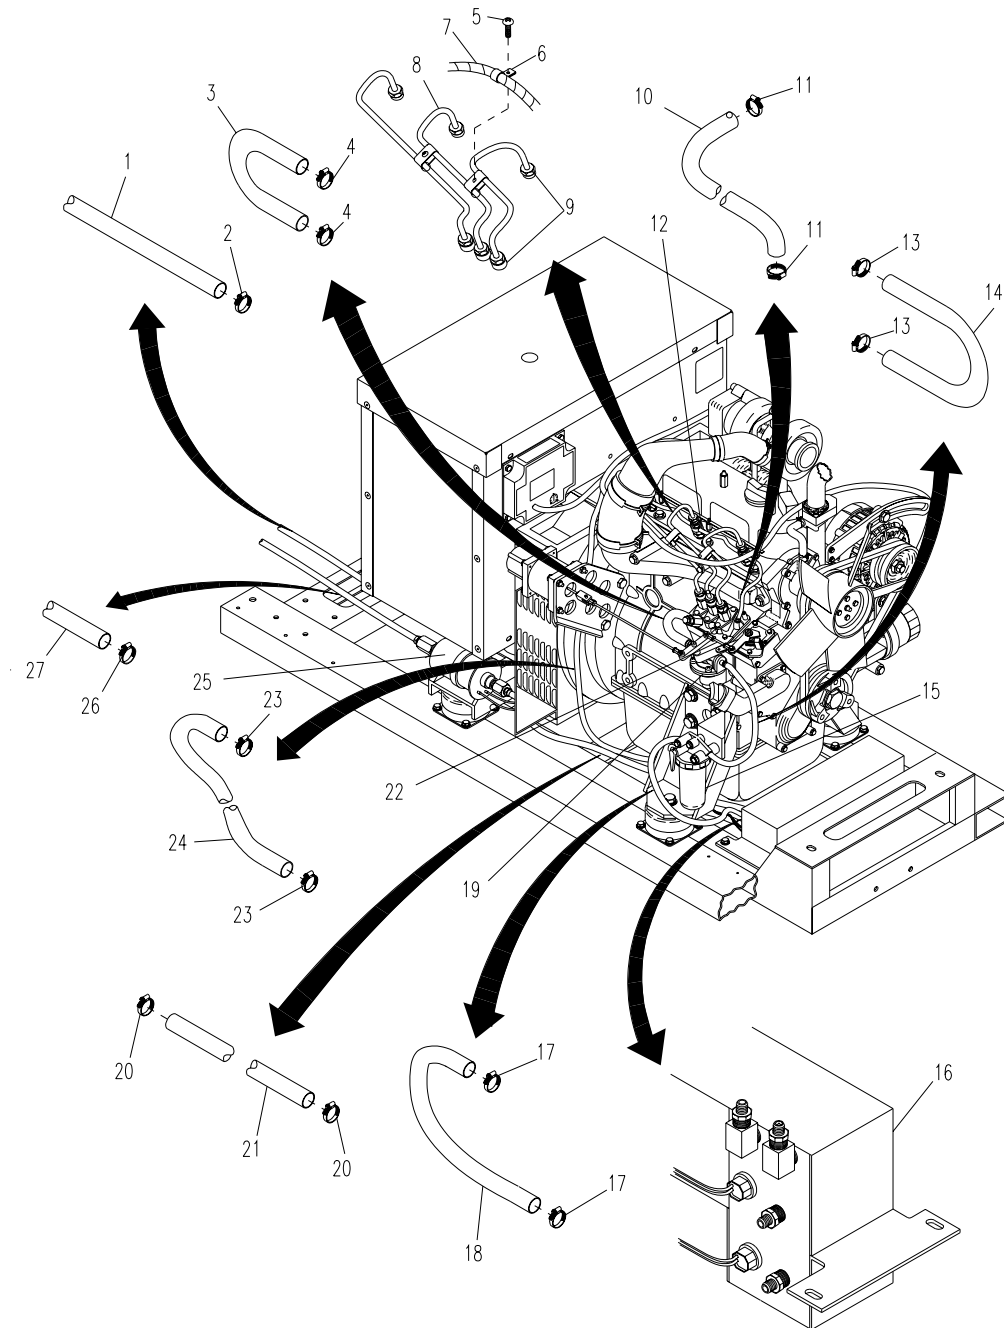
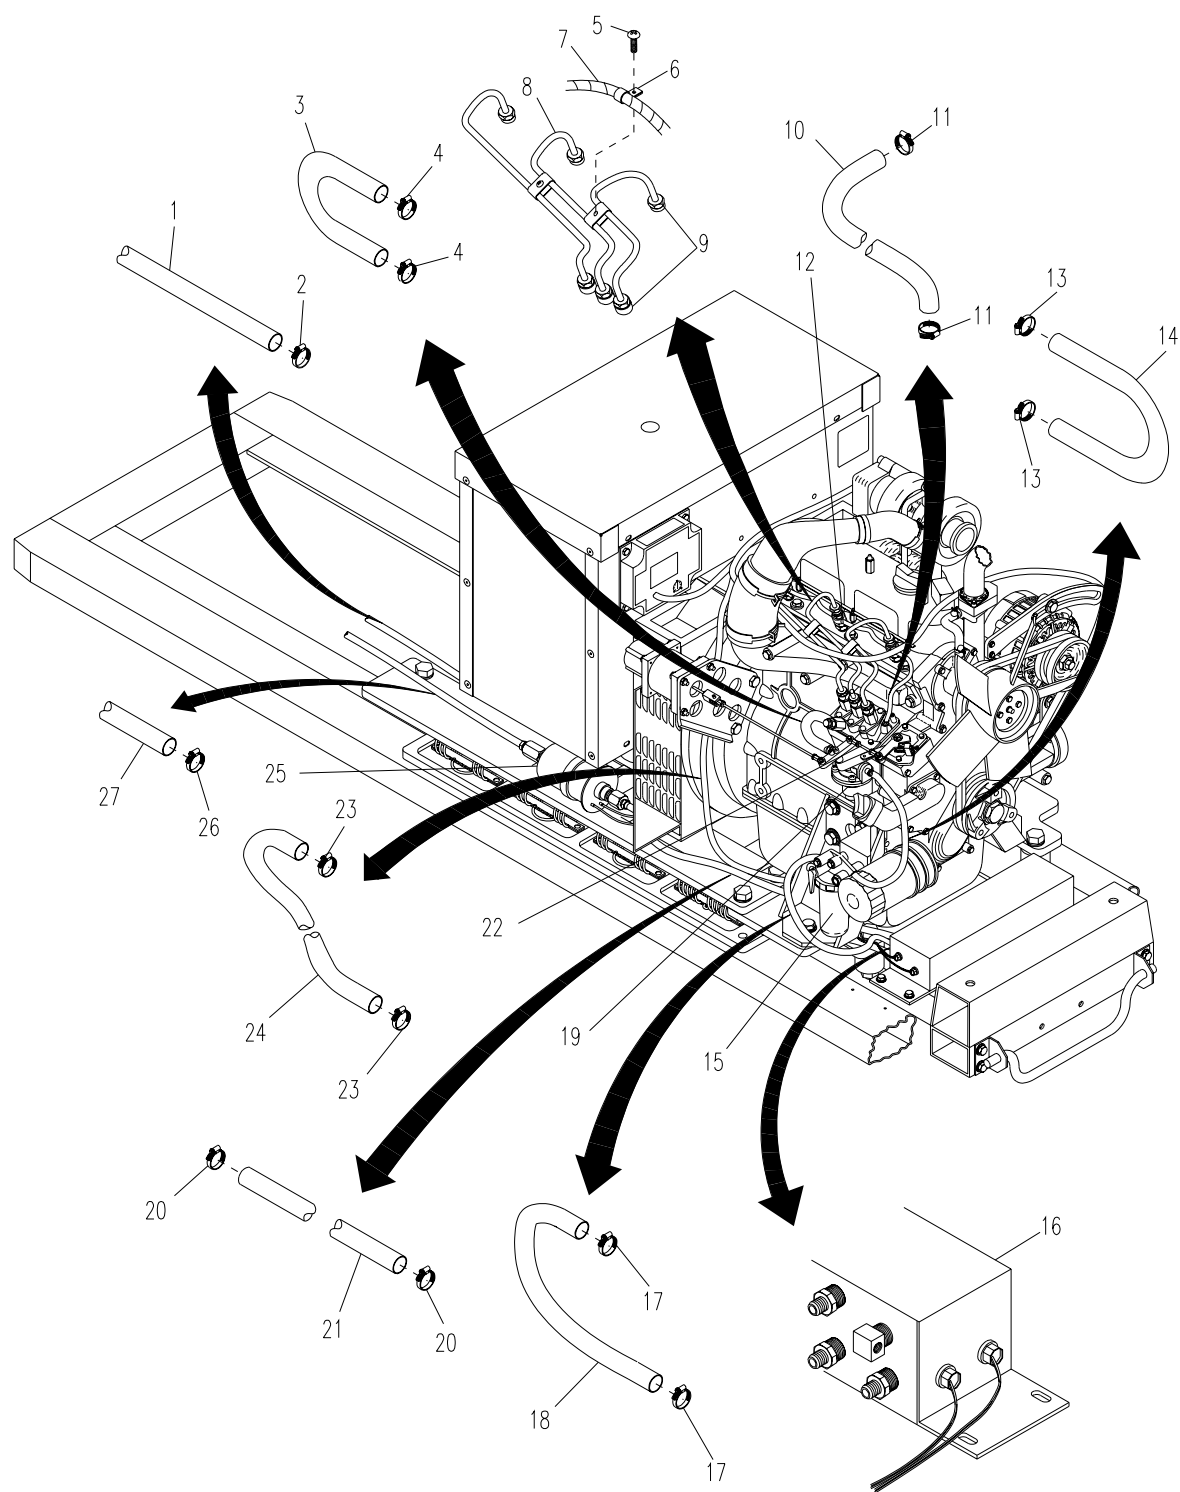

Figure 4-22. Fuel Lines and Fittings (SICPS)
Figure 4-23. Fuel Lines and Fittings (JTACS and WIN-T)
- a. Loosen one clamp (26, Figure 4-22 (SICPS) or Figure 4-23 (JTACS and WIN-T)) and remove fuel line (27) from vehicle to fuel transfer pump (25).
- b. Loosen two clamps (20) and remove fuel line (21) from between fuel transfer pump (25) and day tank (16).
- c. Loosen two clamps (17) and remove fuel line (18) from between day tank (16) and fuel filter (15).
- d. Loosen two clamps (13) and remove fuel line (14) from between fuel filter (15) and feeder pump (19).
- e. Loosen two clamps (4) and remove fuel line (3) from between fuel feeder pump (19) and injection pump (22).
- f. Loosen one clamp (2) and remove return fuel line (1) from day tank (16) to vehicle.
- g. Loosen one screw (5) and loop clamp (6) and remove wiring harness (7).
- h. Install fuel line (24) between injection nozzles (8) and day tank (16) and two clamps (23).
- i. Install overflow fuel line (10) between injection pump (22) and injection nozzles (12) and secure with two clamps (11).
- j. Install three injection lines (8) between injection pump (22) and injection nozzles (12) and tighten pipe fittings (9).
- k. Install wiring harness (7) and secure with loop clamp (6) and screw (5).